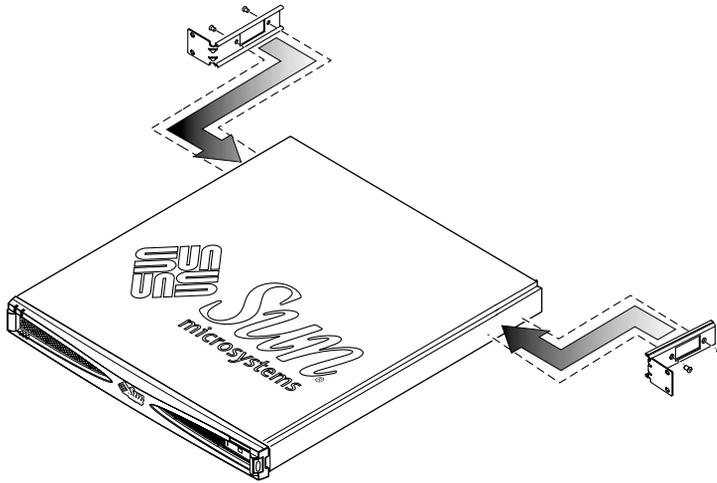

FIGURE 3-13 Attaching Brackets Towards the Back of an Array (for Two-Post Rack Install)
- b. For side-mounting, insert two screws through each bracket into the tapped holes towards the back of the array (FIGURE 3-13).